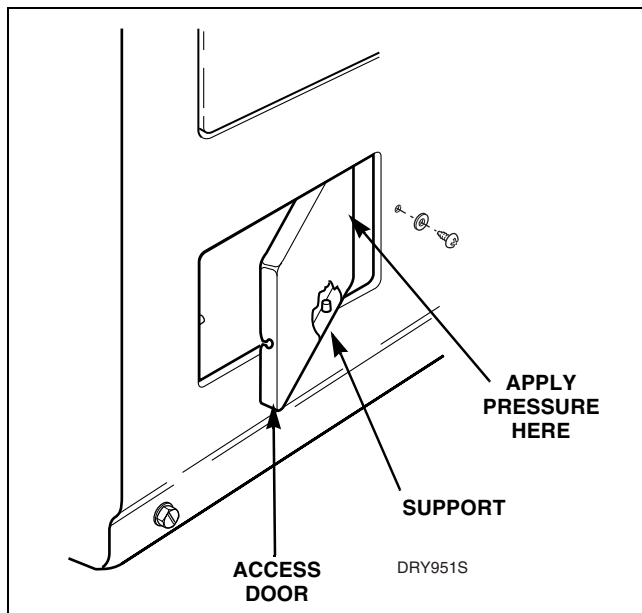
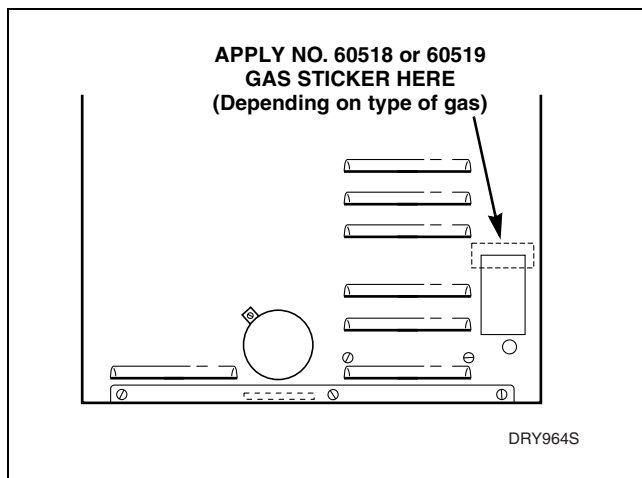

Figure 46
Figure 48
- Apply thumb pressure to the right side of access door. Refer to *Figure 46*. When door opens, move door to the left to disengage from door supports.
- Sign and date each of the two No. 60521 Natural Gas Stickers. Install one of the No. 60521 Natural Gas Stickers over the top three lines of the old sticker on rear of cabinet. Refer to *Figure 48*. Then place the second sticker over the top three lines of the old sticker located on backside of access door. Refer to *Figure 46*.